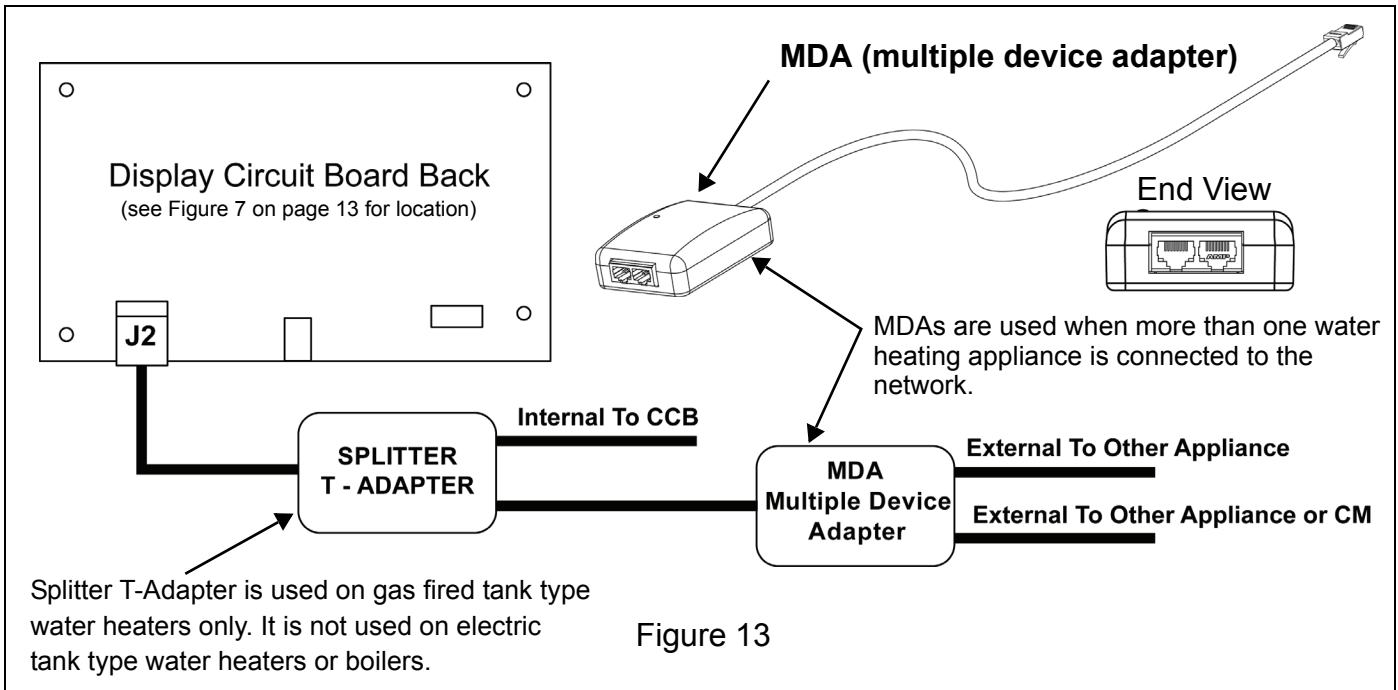

Figure 13
- 4 Each tank type water heater on a Multiple Appliance Network must have a MDA (multiple device adapter) installed. See Figure 10 on page 16, Figure 13 and Figure 14 on page 19. MDAs are ordered separately. One MDA kit should be ordered for every tank type water heater being connected to a Multiple Appliance Network.
- 2 Locate the J2 socket on the display circuit board for all gas fired models and the J9 socket on the CCB circuit board for all electric water heaters being connected - see Figure 7 on page 13, Figure 13 on page 19, Figure 9 on page 15 and Figure 14 on page 19.
- 4 On gas fired tank type water heaters route the cable end of the MDA to the Splitter - T Adapter installed earlier (page 12) and plug the MDA cable end into the remaining open socket on each Splitter - T Adapter. See Figure 7 on page 13 and Figure 13 on page 19. Secure MDAs with the supplied Velcro strips to the top of the gray plastic circuit board enclosure on BTH models and inside the display housing on BTX/GDHE models - see Figure 12 on page 18.